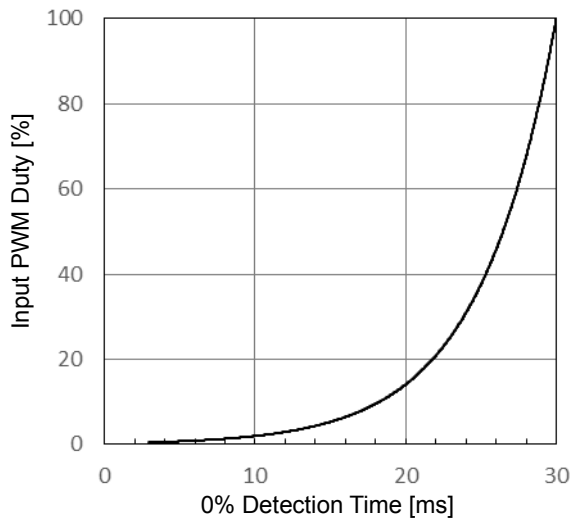

Figure 32. Input PWM Duty vs 0% Detection Time
This IC processes input duty from PWM terminal through the filter in logic circuit. Therefore the time to shift standby mode varies according to input PWM duty before inputting PWM=L. When PWM=L is input, relations of the input duty till then and the time to detect 0% are shown in Figure 32.
*When the soft start time is set, it takes more time to duty fall down except the filter time of Figure 32.